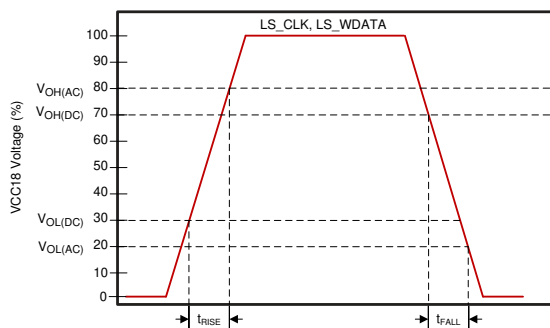
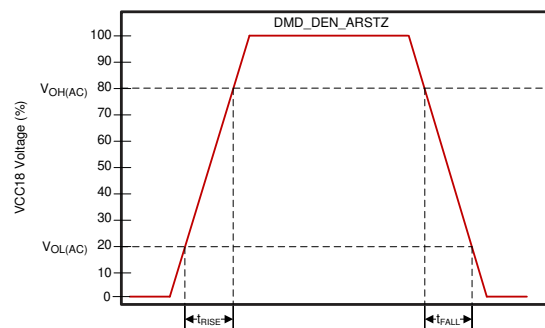

Figure 6-3. LS_CLK and LS_WDATA Slew Rate
Figure 6-4. DMD_DEN_ARSTZ Slew Rate
- (1) $V_{OH(AC)}$ maximum applies to overshoot. When the DMD_LS_WDATA and DMD_LS_CLK lines include a proper 43- Ω series termination resistor, the DMD operates within the LPSDR input AC specifications.
- (2) $V_{OL(AC)}$ minimum applies to undershoot. When the DMD_LS_WDATA and DMD_LS_CLK lines include a proper 43- Ω series termination resistor, the DMD operates within the LPSDR input AC specifications.
- (3) See Figure 6-3 for DMD_LS_CLK, and DMD_LS_WDATA rise and fall times. See Figure 6-4 for DMD_DEN_ARSTZ rise and fall times.